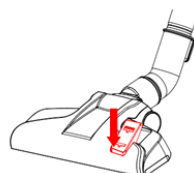

Fig.12
3. As in fig. 12, tread the pedal of the brush tool to lower the bristles, and you can clean the carpet.